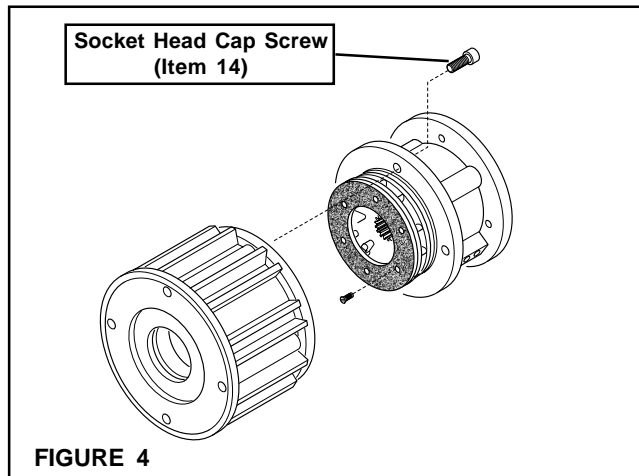

FIGURE 4
1. Remove the four Socket Head Cap Screws (Item 14) and separate the two halves of the FMCBES (See Figure 4).
9. Apply a drop of Loctite[®] 242 to the threads of the Socket Head Cap Screws (Item 14) (See Figure 4).
10. Install and tighten the four Socket Head Cap Screws (Item 14), securing the two halves of the FMCBES to the recommended torque (See Figure 4 and Table 3).